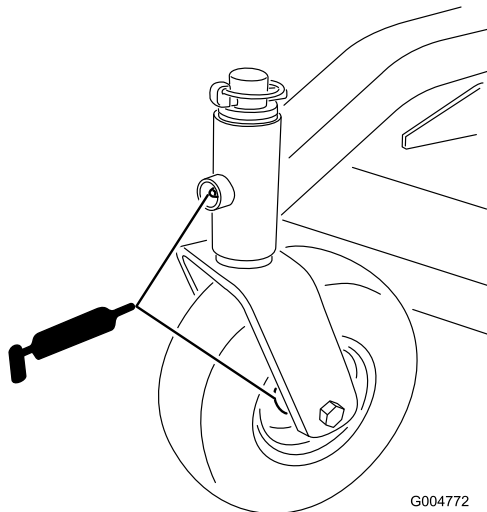

Figure 15
- front castor spindle bushings (Figure 15)
- front and rear castor wheel bearings (Figure 15)